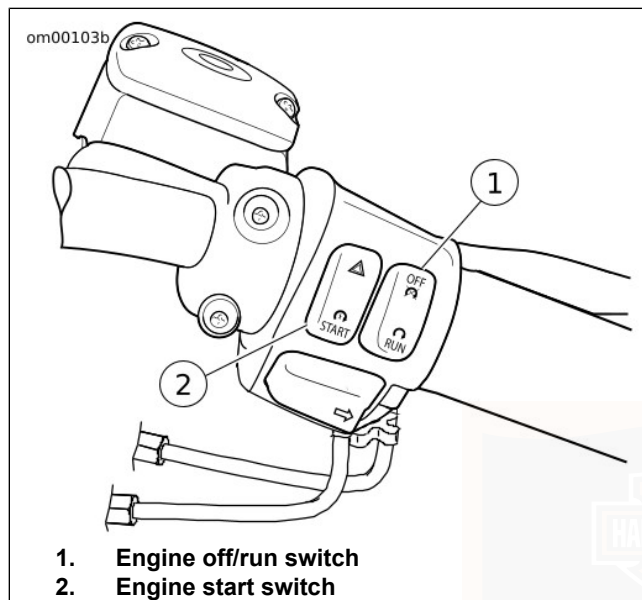

Figure 22. Right Handlebar Controls
2. See Figure 22. Turn the OFF/RUN switch to RUN position.